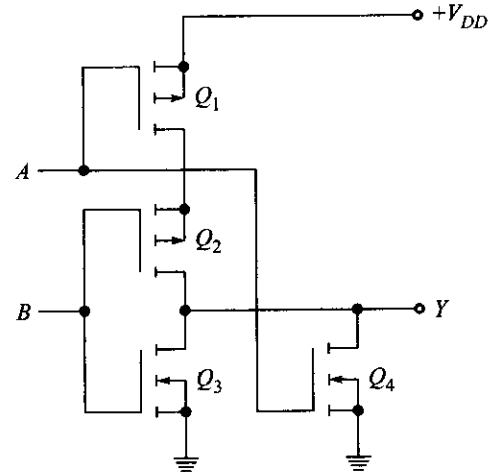

Fig. 14.34 CMOS NOR gate
18. Could the resistor R_L in Fig. 14.34 be replaced with a red LED?
Figure 14.34 shows a CMOS NOR gate. The output goes high only when Q_1 and Q_2 are closed. The output goes low if either Q_3 or Q_4 is closed. There are four possible cases: